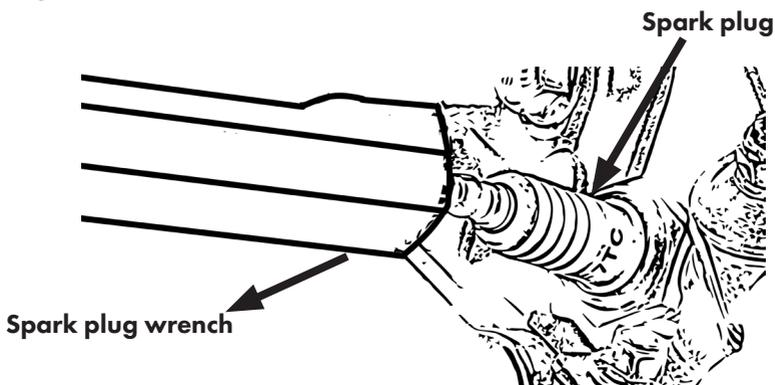

Figure 16
- Remove the spark plug cap and loosen the spark plug using the spark plug wrench, Fig. 16.